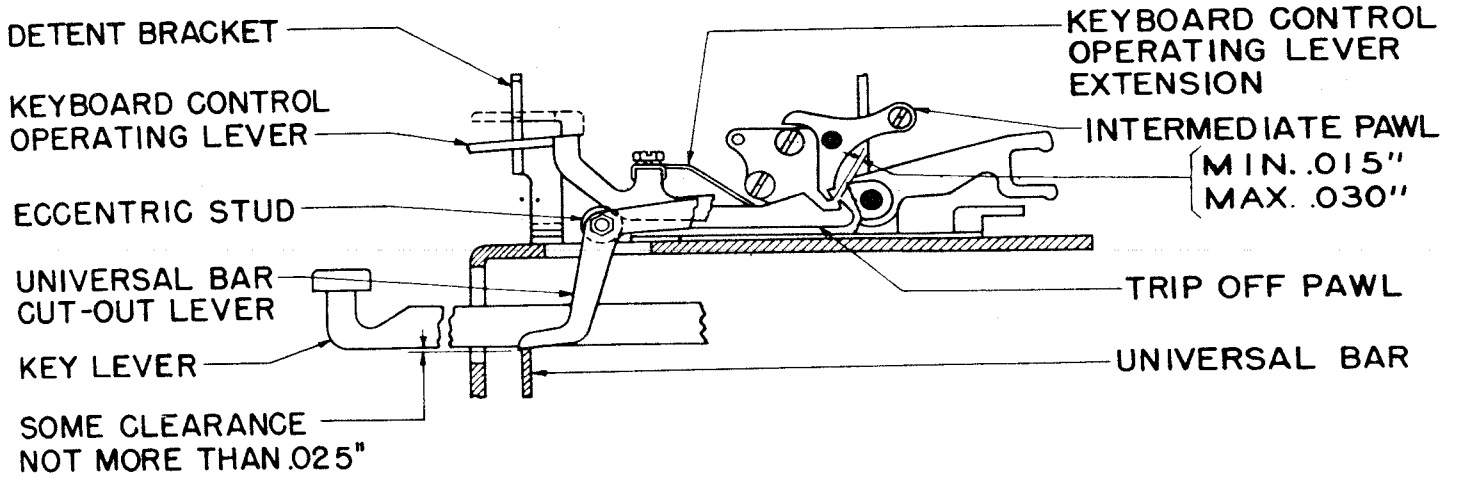

Figure 22
2.29 Universal Bar should clear any fully depressed keylever by not more than 0.025 inch when the keyboard-control operating lever is in its lower TAPE position. See Figure 22.
2.30 Tripoff Pawl should clear the intermediate pawl by minimum 0.015 inch, maximum 0.030 inch at the point of minimum clearance when the keyboard-control operating lever is moved slowly from the middle KBD & TAPE position to lower TAPE position. See Figure 22.